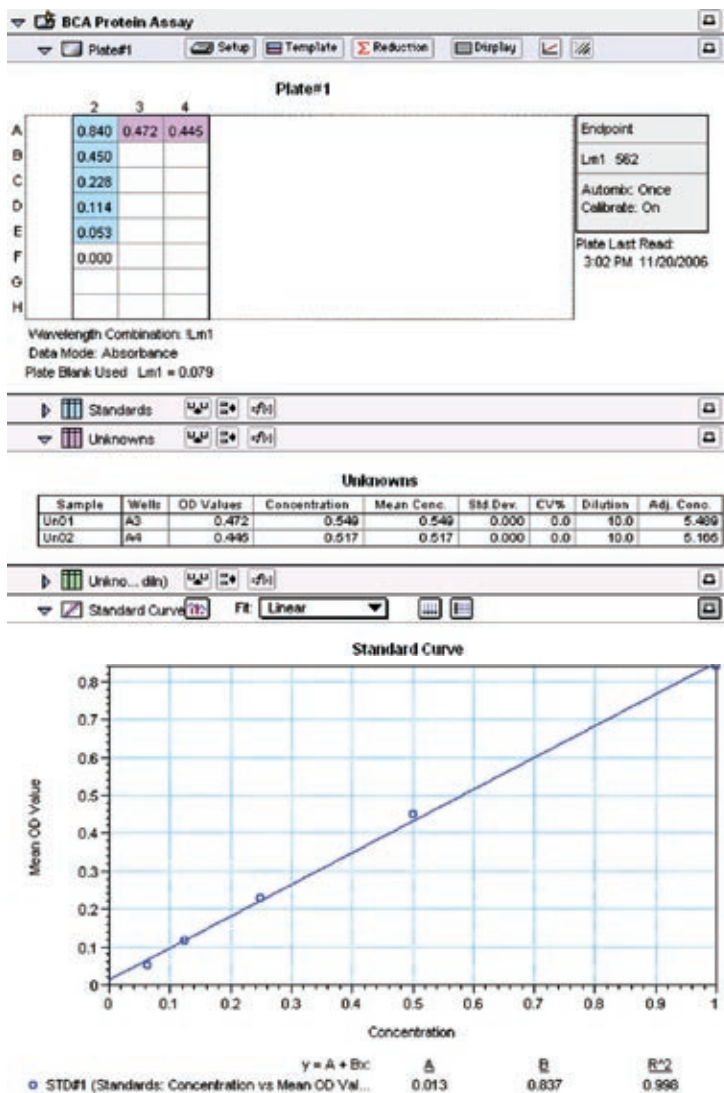

FIGURE 4 • BCA assay printout from Molecular Devices plate reader.
- Remove the plate from the bath, dry the bottom of the plate to remove excess water and proceed to measurement on a plate reader, e.g., Molecular Devices, at 562 nm. A typical 96-well BCA protein assay result is shown in Figure 4.